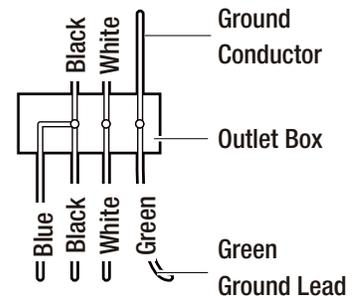

Figure 9
- Connect the fan supply (black) wire and light supply (blue) wire to the black household wire as shown in Figure 9. Do not connect the blue wire if the light kit is not used.
- After connecting the wires, secure the wire connectors (AA) with black electrical tape and spread them apart so that the green and white wires are on one side of the outlet box and the black and blue wires are on the other side. (i.e., grounded conductor on one side and hot wires on the other side.)
- Turn the wire connectors (AA) upward and push the wiring into the outlet box.